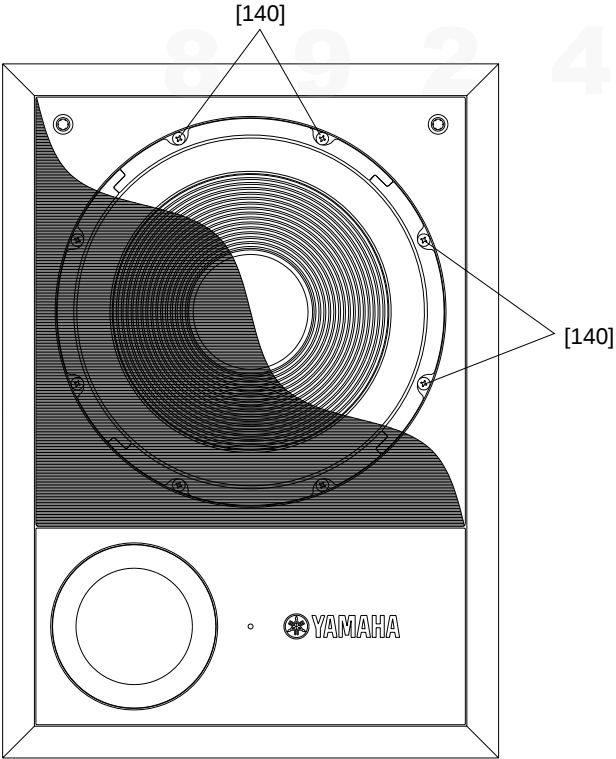

Fig.1
1-2. Remove the eight (8) screws marked [140]. The woofer can then be removed. (Fig.1)